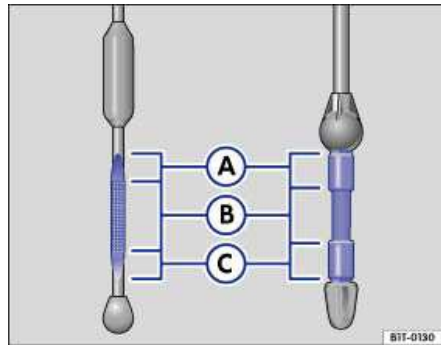

Fig. 179 Oil dipstick with engine oil level marks.
7. Remove the dipstick again and read the oil level on the dipstick ⇒ fig. 179 as described below:
13. After adding oil, the level must at least be in the center of the ⇒ fig. 179 \(B\) area, but never above **(A)** ⇒ .